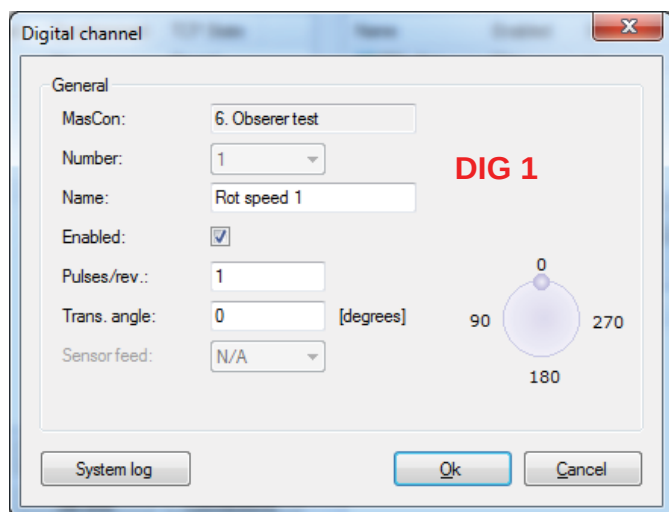

Fig. 3. Set up of digital channel 1.
- **Digital channels:** Go to **On-line/IMx units** and add two digital channels (→ **figs. 3 and 4**).